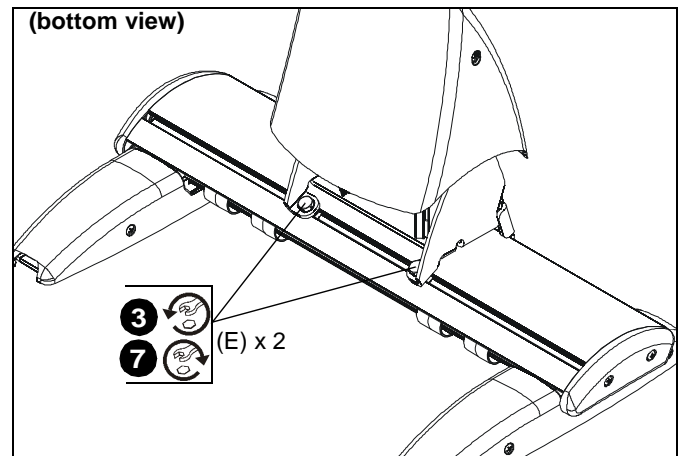

Figure 34
3. Loosen two 1/4-20 x 5/8" hex head cap screws (E) on underside of mounting bracket. (See Figure 34)